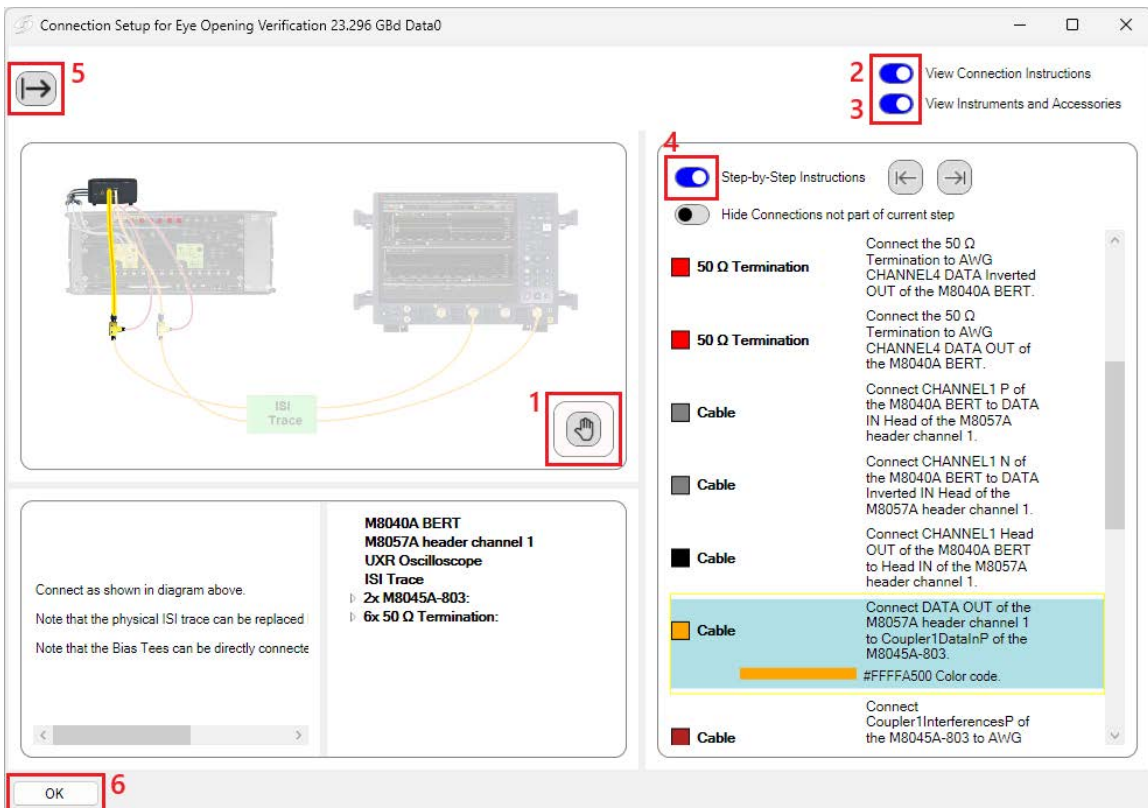

Figure 3-6 Connection diagram window with step-by-step instructions and list of instruments
- 3 **Instruments and Accessories:** Toggle to 'on' to view the list of required instruments and accessories (Figure 3-6).
- 4 **Step-by-Step Instructions:** Toggle to 'on' to see each connection highlighted in turn (Figure 3-6).